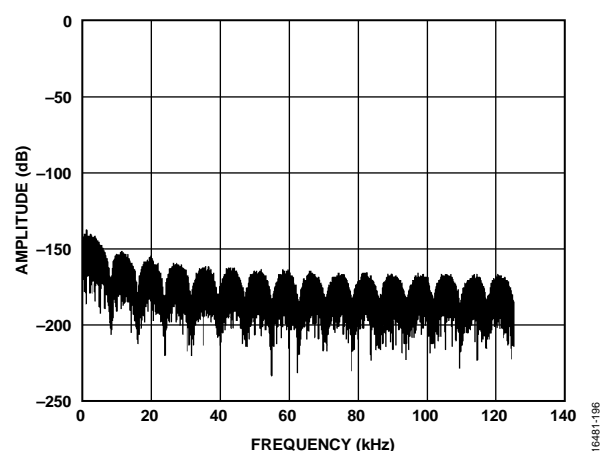

Figure 99. Example Filter Profile Upload
The following sequence programs a sinc1 filter. The coefficients in Address 0 to Address 23 = 0. The coefficients from Address 24 to Address 55 = 131,072 ($2^{22}/32$). When MCLK = 16.384 MHz and ODR = 256 kHz, the filter notch appears at 8 kHz and multiples of 8 kHz. This filter provides low noise and is recognizable by the distinctive filter profile shown in Figure 99.
17. Gather data. The resulting filter profile is shown in Figure 99.